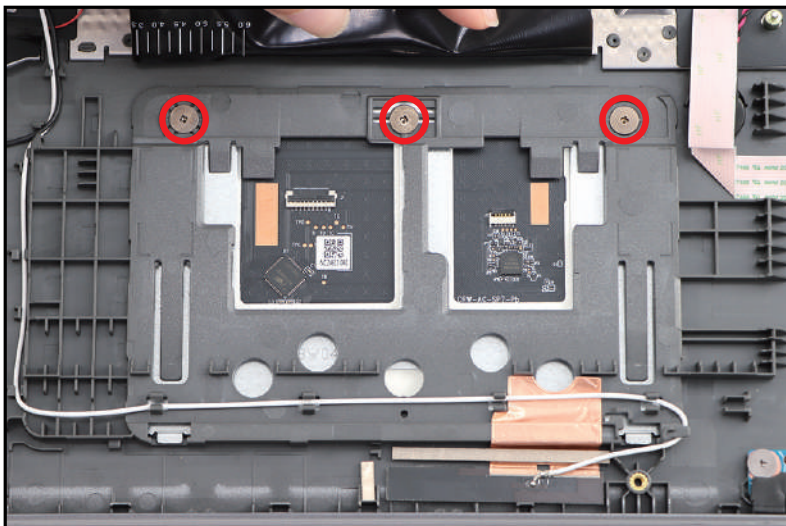

Figure 3-51. Touchpad Module Removal
6. Remove three (3) screws securing the touchpad module (Figure 3-51).